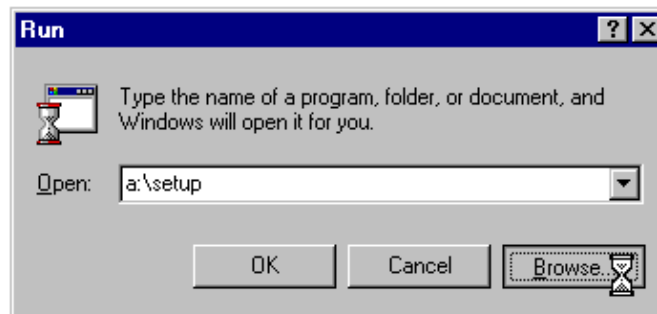

Figure 1-22 Run Window - Click Browse
27. Click **Browse** at the **Run** window (Figure 1-22).